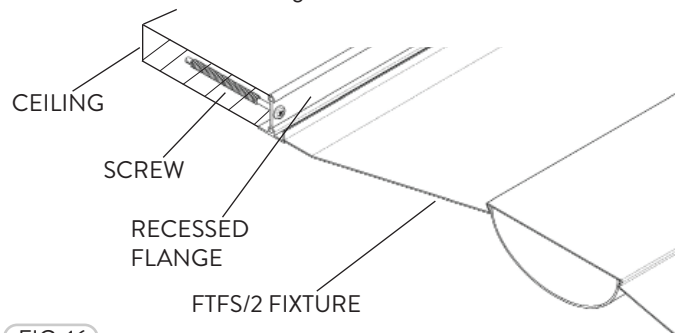

FIG. 16
- 3 If the drywall Ceiling is at least 1" thick, then the Drywall Flange frame can be fastened from the sides. See 'cut-out' below. Mounting Screws are not included (Fig. 16).